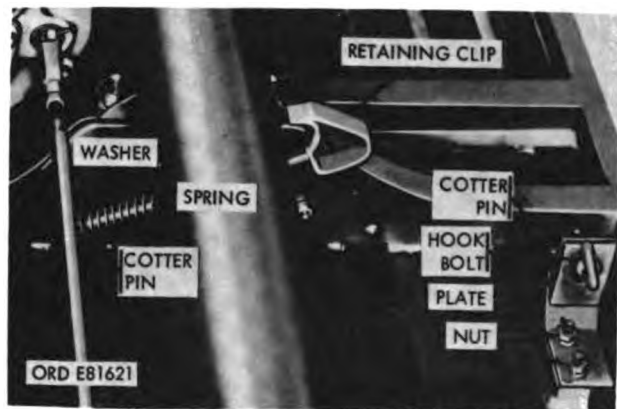

Figure 2-97. Seat stowage hook.
**2-80. Seat Stowage Hook (Figure 2-97)**